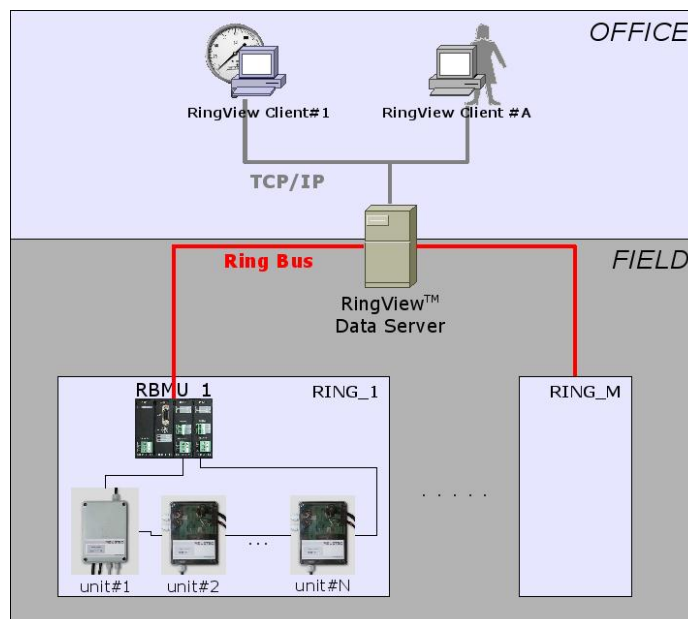

FIGURE 1.1: RINGVIEW SYSTEM HIERARCHY
- **Clean and “shallow” system hierarchy:** RingView system has only 3 levels of hierarchy, from operator all the way down to the damper or fan actuator, no matter how complex the sensor/actuator network can get (Figure 1.1). One of the major benefits of such simple configuration is the quick and constant response time.